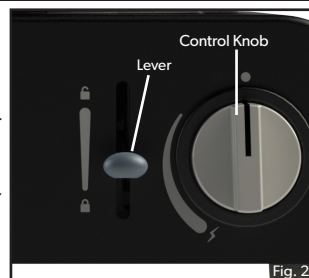

Fig. 2
- Check that the control knob is in the OFF "•" position and that the lever is set to "unlock" (see Fig. 2).
- Lock the cartridge into place by moving the lever to the "lock gas" position (see Fig. 2).
- Unlock the cartridge by moving the lever to the "unlock" position (see Fig. 2).